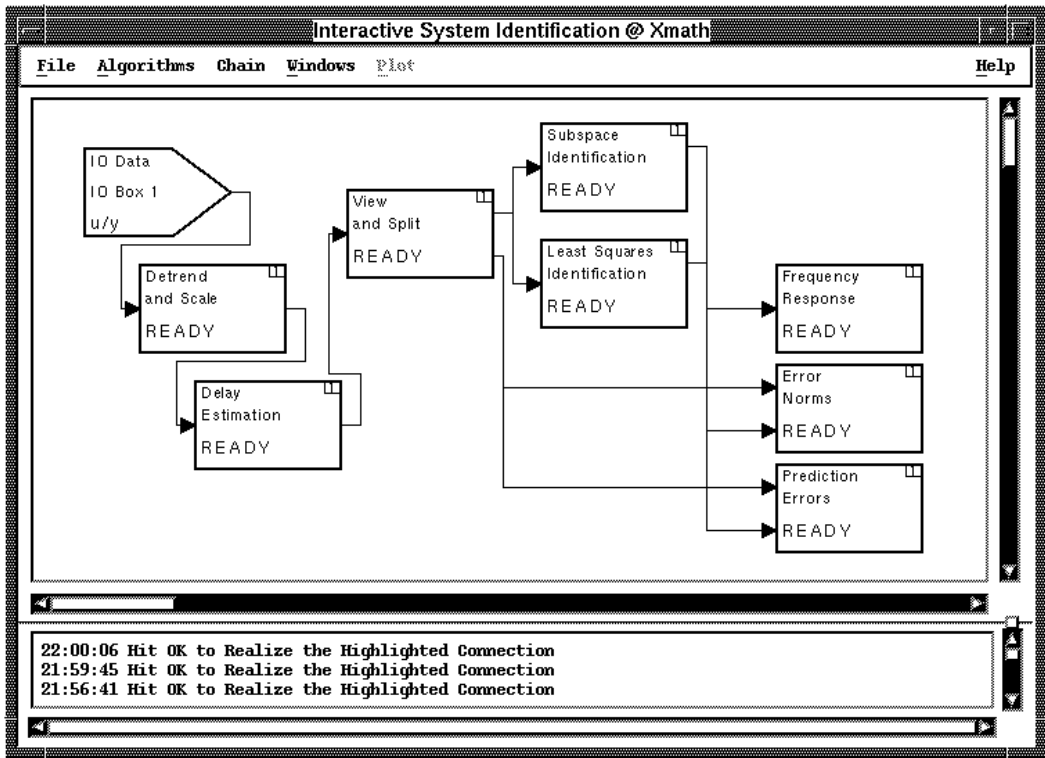

Figure 2.11 Final chain obtained at the end of this section.
4. You will build up the chain algorithm by algorithm. To know what the final result looks like, see Figure 2.11.
6. It is time to open your second algorithm. Assume you know that there is a fair amount of delay present in the process. You can compensate this delay with the **Delay Estimation** algorithm (Algorithms → Processing → Delay Estimation). The procedure to place the algorithm is similar to step 5. When the “OPEN” window pops up, define the inputs to the algorithm and (optionally) adjust the default parameters. From Figure 2.11 it should be clear which connection to make
7. In this step, you will split the input-output data record into two at the **Delay Estimation** output. Use the menu entry Algorithms → Processing → View/Split to place and open the algorithm with the correct input connections (see Figure 2.11). The intermediate Chain Plot is depicted in Figure 2.15.
response (Algorithms → Display → Frequency Response) and the prediction error (Algorithms → Validation → Prediction Errors). The connections can be derived from Figure 2.11. Remember that you can always move the algorithm icons in the Chain Plot by clicking and dragging with the left mouse button.
- Return to the **Least Squares** algorithm window and select model order 7. As a last step, connect the output of the **Least Squares** icon to the **Frequency Response** icon and the **Prediction Error** icon. This results in the chain shown in Figure 2.11.